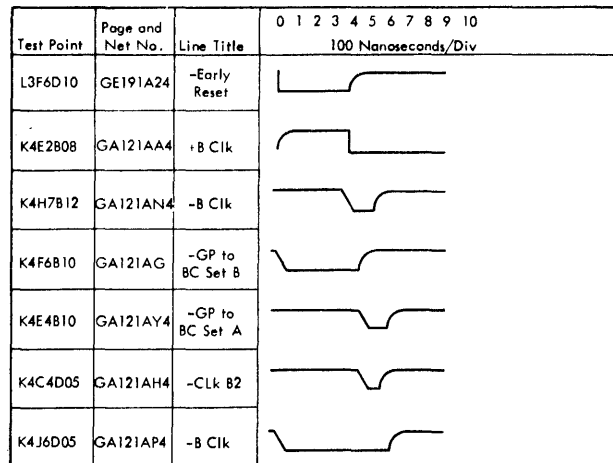

FIGURE 104. B CLOCK
2. Sync scope on L3E7B08 plus external; set first pulse on Figure 104 at zero time.
4. Check all points in Figure 104.